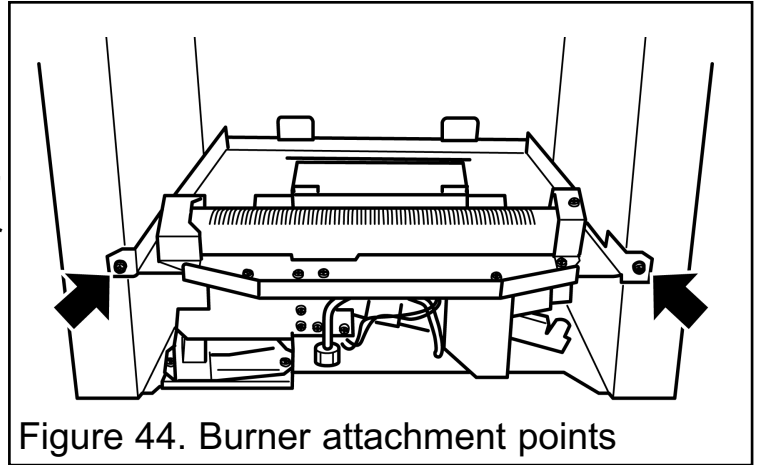

Figure 44. Burner attachment points
4. Detach the burner unit from the convection box by removing two screws (See figure 44).